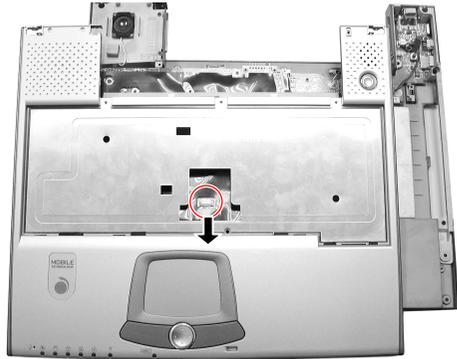

Figure 2-26 Disconnect the cable
8. Disconnect the touch pad's cable. Then lift up the system top cover. (Figure 2-26)